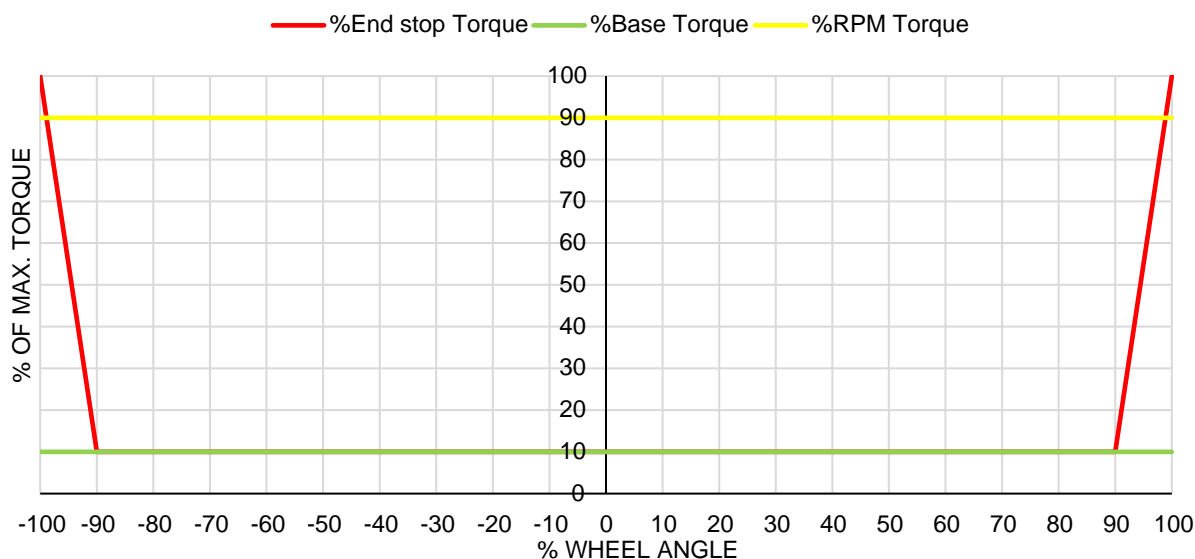
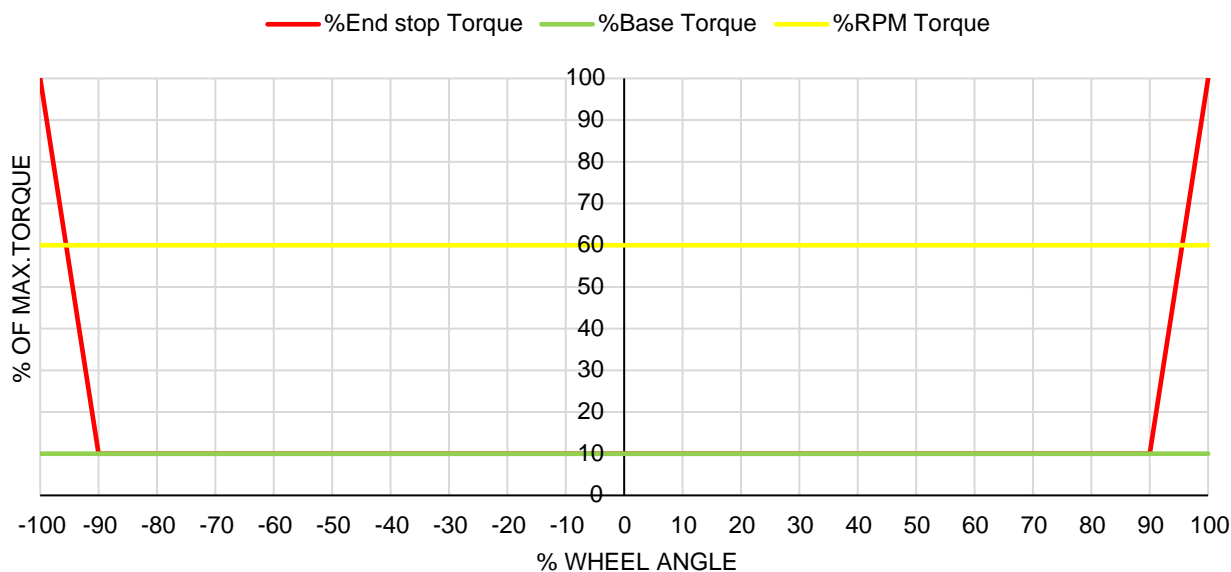

Figure 5 Torque Control Algorithms for 5 Nm
Figure 6 Torque Control Algorithms for 2 Nm
The control algorithms in e-Wheel, are offered as standard variants with the torque values shown as per figure 5 and figure 6.
In above figures 5 and 6 respectively,
- x Figure 5 represents for e-Wheel with 5 Nm as 100 % of the maximum operating torque and figure 6 represents for e-Wheel with 2 Nm as 100 % of the maximum operating torque.
depending upon the allowable RPM at corresponding steering lock to lock ratio from steering controller. Figure 5 shows, the maximum RPM torque for 5Nm is defined for 90 % of the maximum operating torque; whereas figure 6 shows RPM torque for 2Nm is defined for 60 % of the maximum operating torque.
Wheel angle sensors close the feedback loop with the steering controller, ensuring the vehicle's wheels match steering commands. During the operation, steering controller transmits the estimated wheel angle values as a feedback message over CAN bus to the e-Wheel. Based on this message, e-Wheel detects the wheel angle values and determines the torque force feedback. As shown in figure 5 and figure 6, the End-Stop control algorithm increases linearly from 90 % to 100 % wheel angles and provides maximum operating torque (torque of 5Nm or 2Nm based on the chosen e-Wheel variant) at 100% wheel angle. Thus, operator experiences the End-Stop torque feedback, on vehicle wheels reaching the maximum wheel angle. As soon as the operator steers away from the end stop towards neutral, the torque drops to the base torque control, as explained below.
The background torque for normal steering, excluding end-stop conditions, is the base torque control. This torque is smooth and persistent through-out steering at different wheel angles, as shown in figure 5 and figure 6, as 10 % of the maximum operating torque.